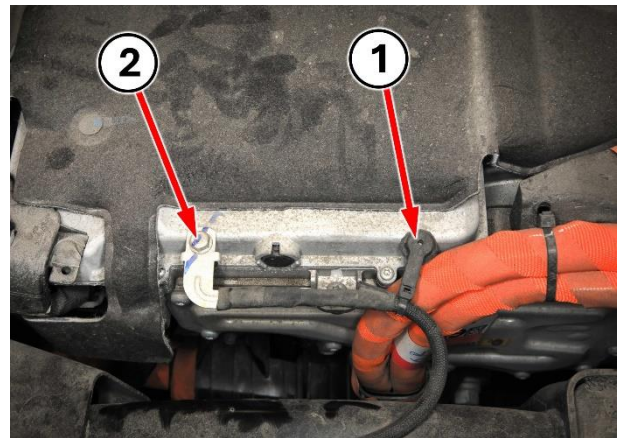

Figure 31 – EDM Ground Wire
69. **Left side of EDM:** Remove the fastener and wire harness retainer securing the ground wire to the EDM (Figure 31).